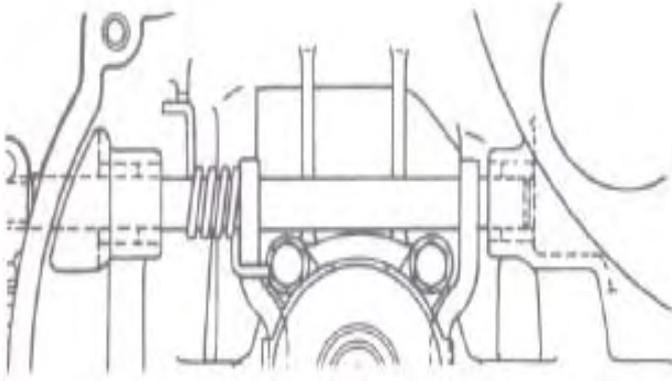

Fig 10-11
- (1) Make sure to apply grease to inside of bushes.
- (2) Drive in bushes to the same level as outside surface of transmission case.(FIG.10-11)